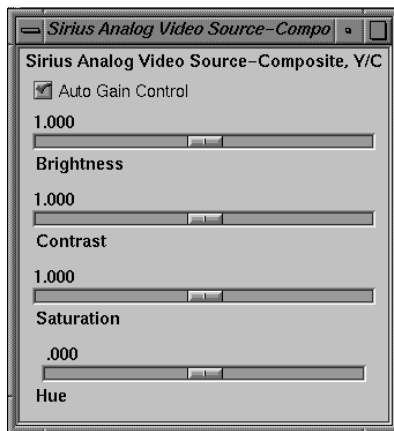

Figure C-13 Adjusting Attributes for Composite Video
3. Select "Analog Video Source" in the Pro menu, and then select "Composite, Y/C." The Sirius Analog Video Source Composite, Y/C window appears, as shown in Figure C-13.